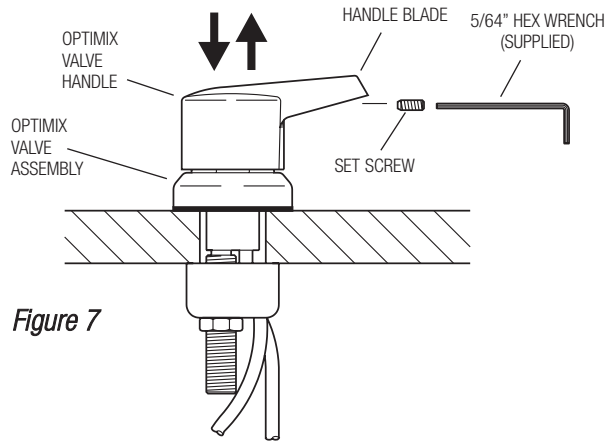

Figure 7
- A** Remove Optimix Valve Handle (Figure 7) – Close Supply Lines at Compression Stops. Activate faucet to release water pressure from the system. Remove Set Screw from below Handle Blade using the 5/64" Hex Wrench supplied. Remove the Handle from the Optimix Valve Assembly by lifting straight up.